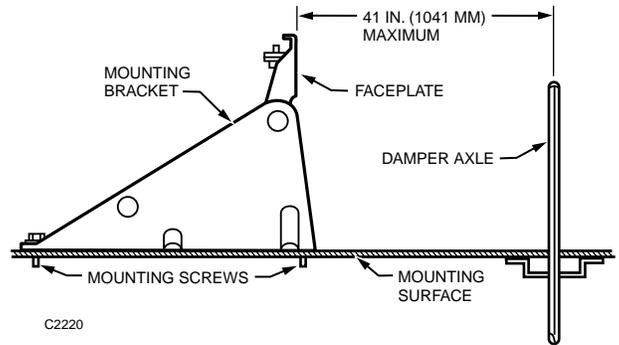

Fig. 15. Mounting Bracket Installation.
6. Install mounting bracket using four mounting screws provided (Fig. 15).